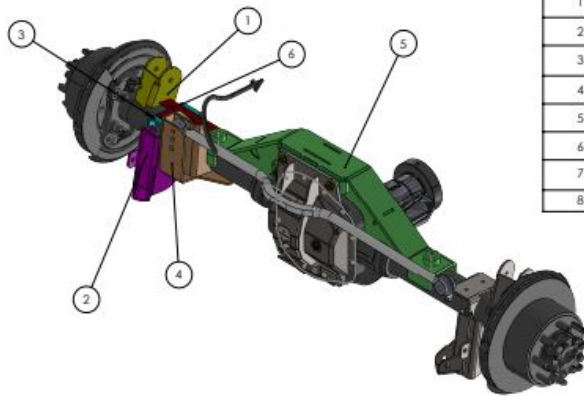

Figure 1-2
- Heat the casting to between 250 - 400 degrees F. Use Tempsticks (*Figure 1-2*) to ensure that the casting is heated correctly.